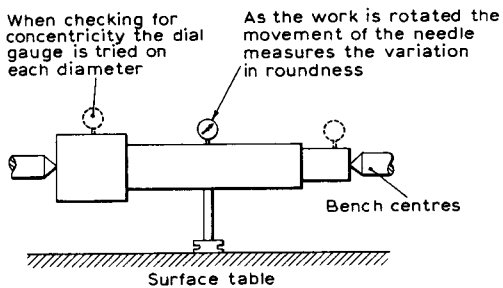

Fig. 4.108 Check for concentricity
4. **Concentricity and roundness.** With some round work it is important that the various diameters have the same centre. This is known as *concentricity* and is best checked by using a dial indicator. The method is described in Fig. 4.108. Roundness can also be